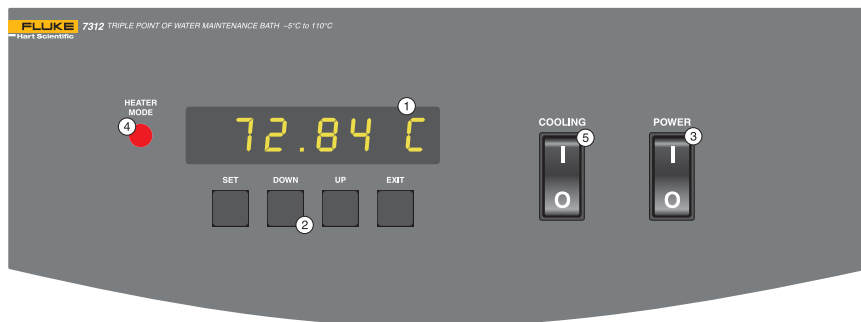

Figure 5 Front Controller Panel
The following controls and indicators are present on the controller front panel (see Figure 5 below): (1) the digital LED display, (2) the control buttons, (3) the bath on/off power switch, (4) the control indicator light, and (5) the cooling on/off switch.